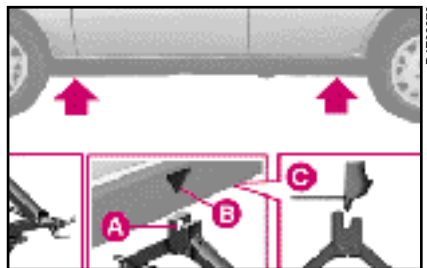

fig. 5
4) Arrange the jack at the ▼ symbol **B**-fig. 5 near the wheel to be changed and make sure that the groove **A** on the jack fits well into the sidemember **C**.